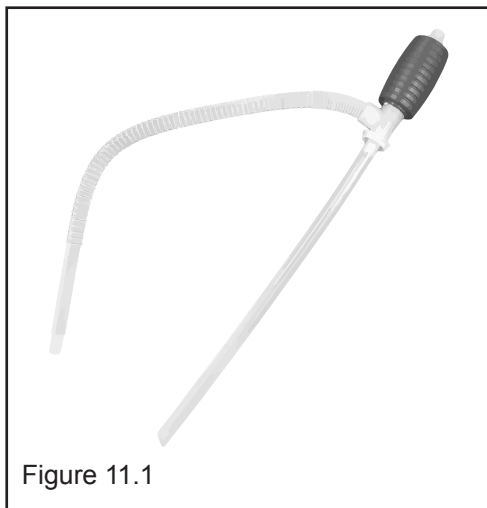

Figure 11.1
2. Using an approved siphon (Figure 11.1), remove the Kerosene or diesel.